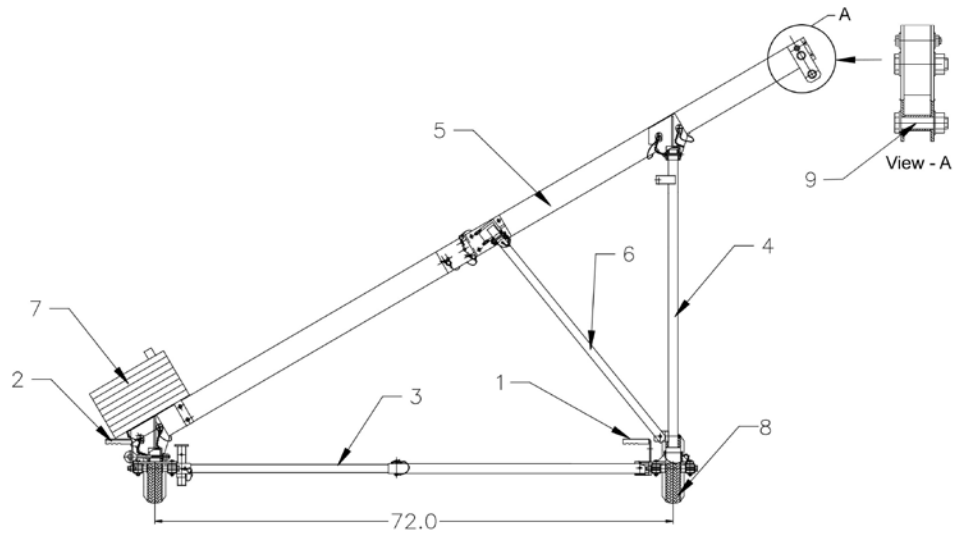

Figure 2
During use, the roof rigger (Fig.2) is locked in place using the front (pos. 1) and rear handbrakes (pos.2) thereby providing a safe, stable, and secure anchor point for the suspended worker.
Connect the descent (work) line to the attachment point on the Roof Rigger (Fig. 2)